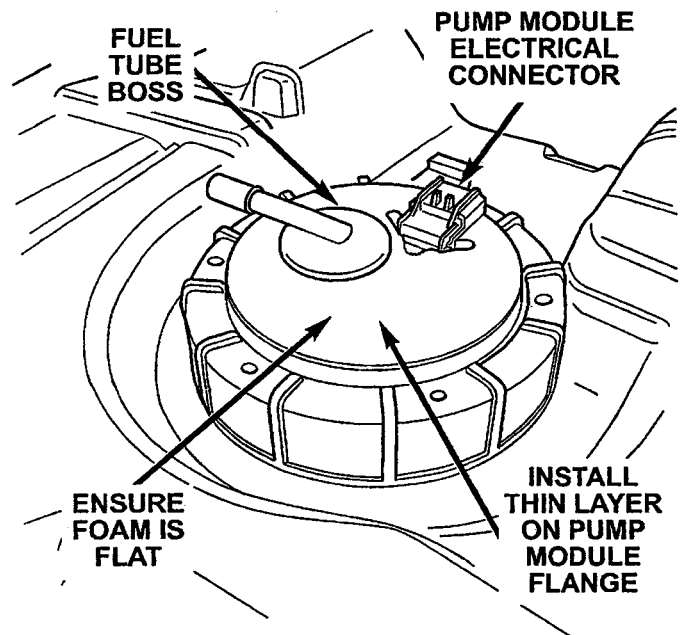

Figure 2
7. Place the thin foam layer directly on top of the fuel pump module flange (Figure 2). Make sure that the appropriate sized cut-out is placed around the pump module electrical connector and fuel tube boss. Ensure that the foam lies flat on the pump module flange.